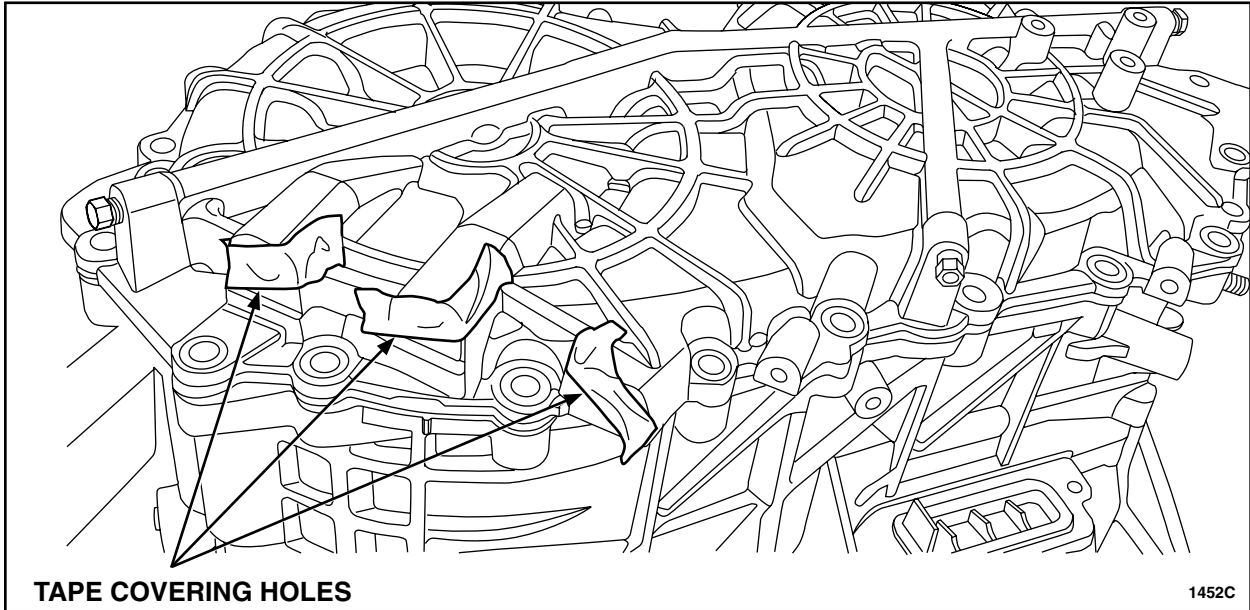

FIGURE 42
37. Place tape over transmission mount boss holes to prevent any debris lodged in the holes from falling into transmission during removal. See Figure 42.